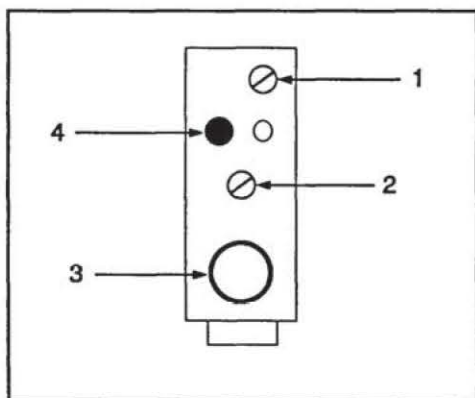

Figure 3.14 - Alignment LED and gain control locations
3. Direct the infrared sensor light beam at the substrate and observe the red alignment LED (Figure 3.14).
3. Direct the emitter at the receiver and observe the red alignment LED on the receiver (Figure 3.14).
3. Direct the infrared light beam on the emitter/receiver at the reflector and observe the red alignment LED (Figure 3.14).